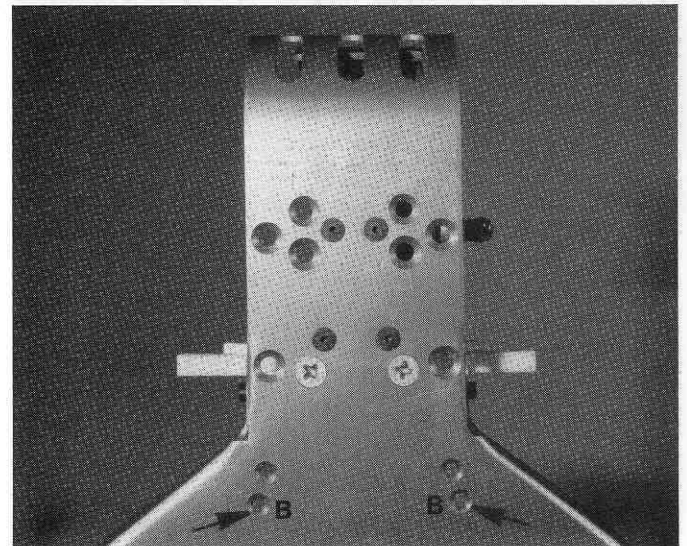
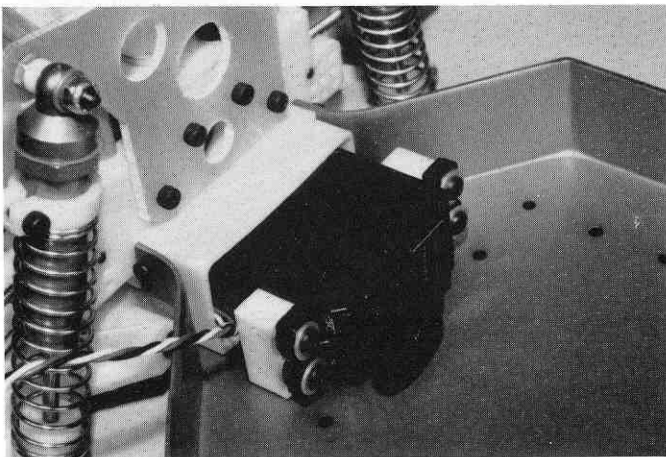

Fig. 130
Fig. 132
□ **Fig. 129 & 130** See the beginning of radio installation section for a description of servo sizes (page 36). Do the following steps to mount a medium sized Futaba or Airtronics throttle servo. From bag #6-5 take two #6292 4/40 x 3/8" FHSScrews, and two plastic servo mounting blocks. Install the servo mounting blocks to the chassis using the "B" chassis mounting holes as in Fig. 130. The servo mounting blocks must be mounted with the chassis mounting hole to the back and the large section of the block to the front.
□ **Fig. 130** Use the "B" holes, as marked in photo, to mount medium size servo.
□ **Fig. 132** Reinstall the servo to the chassis, using the same #6292 4/40 x 3/8" fasteners used earlier, on the "B" mounting holes as shown in fig. 130. It is important that the servo horn and wiper clear the chassis by about 1/8" (3.1mm). This will prevent any possibility of the wiper hitting the chassis and grounding the battery to the chassis. Also some servos (the Futaba S28/S128 for instance) are very deep and may bottom out against the back of the bulkhead, making alignment with chassis holes difficult. In this case you should put washers between the mounts and the servo to space the servo away from the bulkhead.